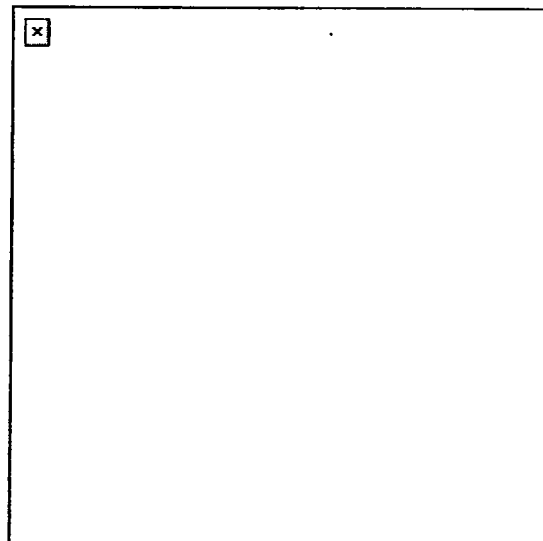

Figure 191-376-4122-3
3. Assume the on-guard position as shown in Figure 191-376-4122-3.